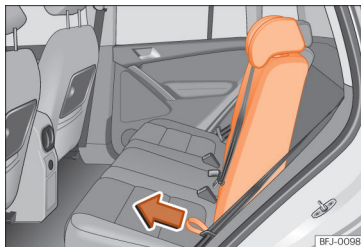

Fig. 115 Folding down and lifting the rear seat backrest
- Pull the cord »» **Fig. 115** forward in the direction of the arrow while holding the seat backrest and move it forward slowly »» .